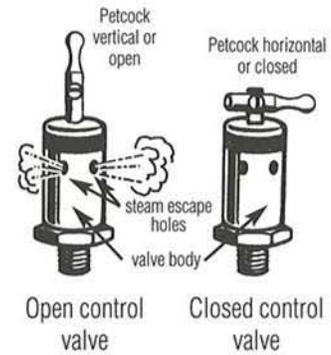

Fig. 2
5. Open CONTROL VALVE (See Fig. 2) by placing valve lever in an upright position. The steam generated at the bottom of the sterilizer will travel around the outside of the container and then down through the material in the container to the bottom and force the air from the bottom of container up through the flexible air exhaust tube and out of the control valve. **It is important that the steam be permitted to escape vigorously from the unit for at least five minutes and then you may close the control valve.** This process of permitting the steam to escape is called EXHAUSTING and is necessary to remove the air trapped in the unit. With the control valve in the closed position (See Fig. 3), pressure will rise inside the sterilizer and will be indicated on the pressure gauge.